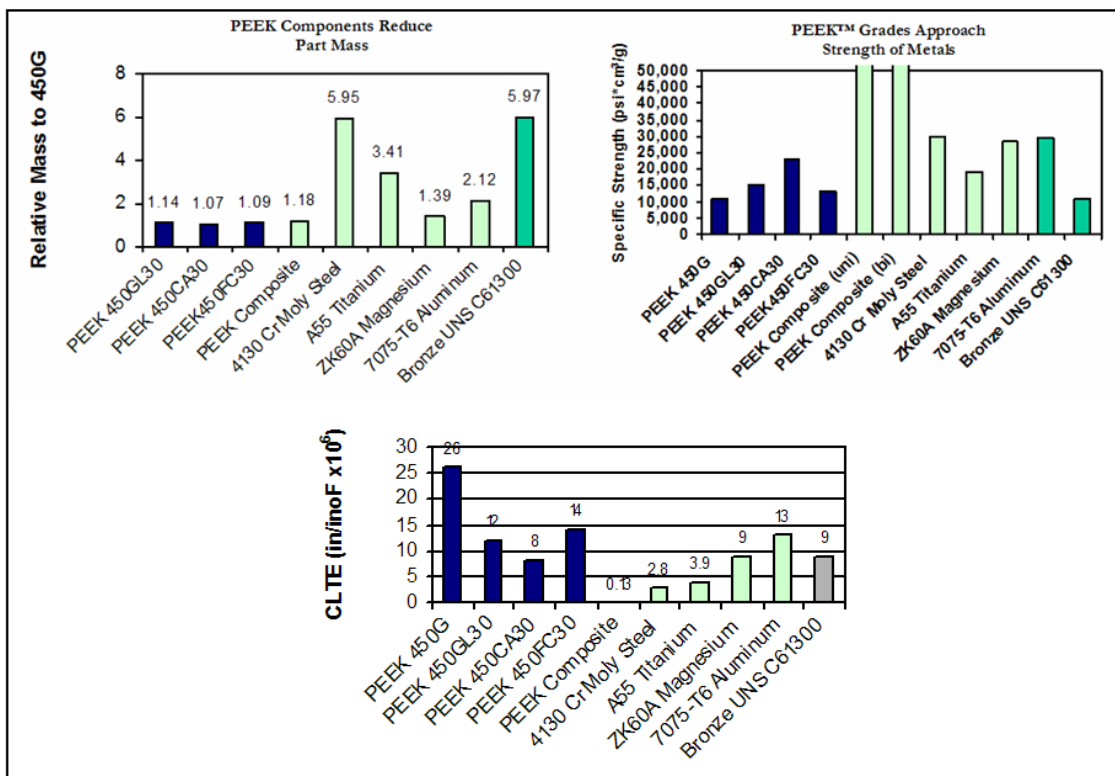

Figure 15
**Figure 15** displays comparable mass and strength data for various grades of PEEK™ versus commonly used metals in the medical industry. PEEK™ also offers coefficient of linear thermal expansion values that are close to metals for applications where metal to plastic is being considered.